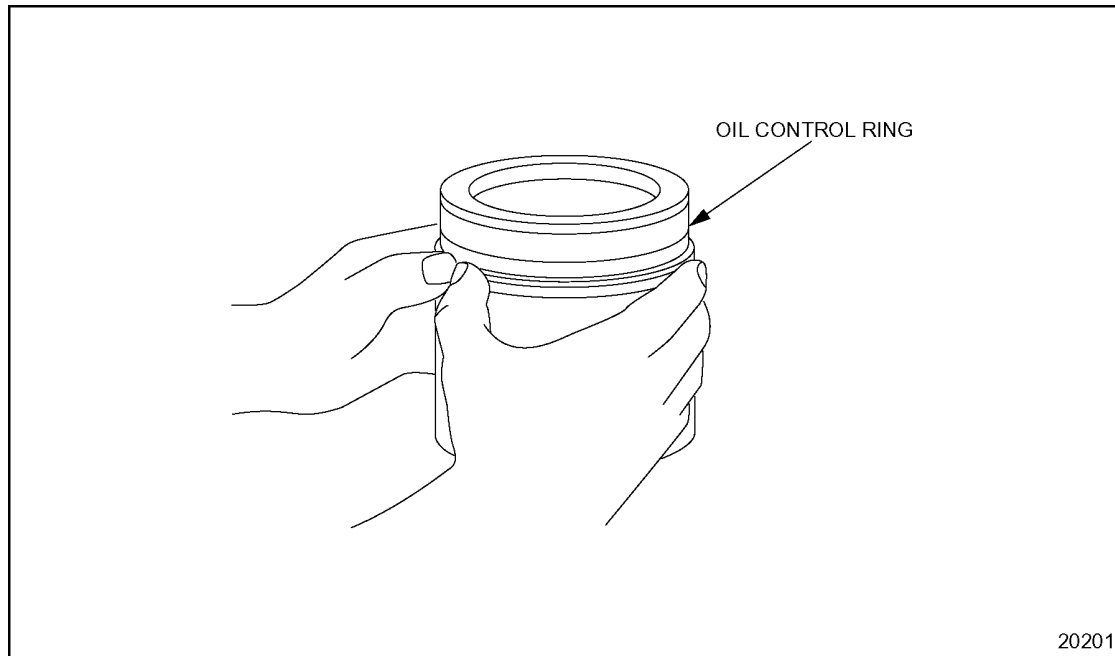

Figure 1-236 Oil Control Ring Installation
2. Install the oil control ring by hand. See Figure 1-236.